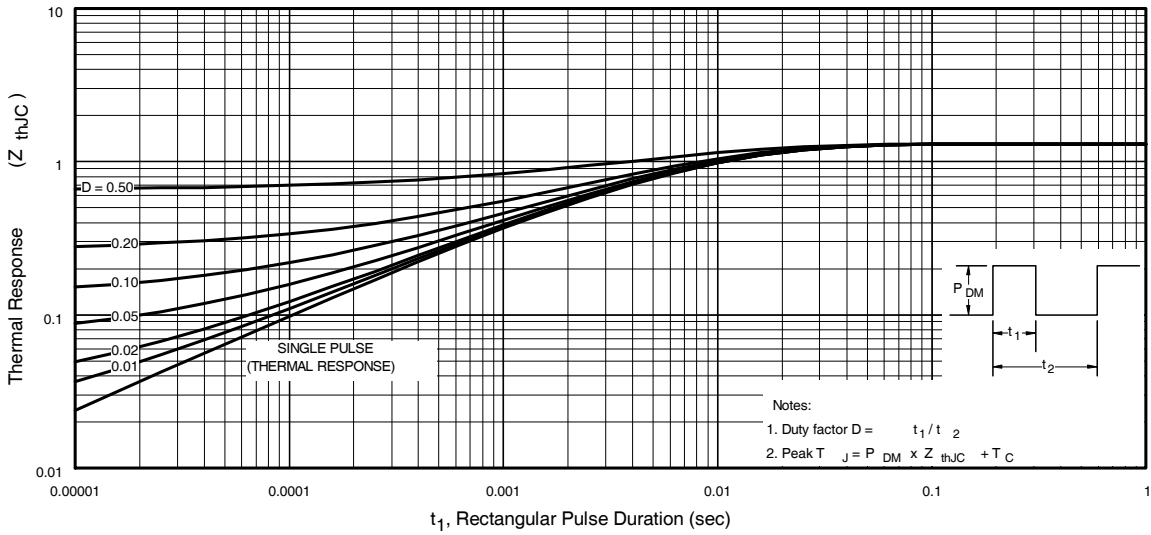

Fig 11. Maximum Effective Transient Thermal Impedance, Junction-to-Case
- ① Repetitive rating; pulse width limited by max. junction temperature. (See fig. 11).
- ② Limited by T_{Jmax} , starting $T_J = 25^\circ\text{C}$, $L = 0.45mH, R_G = 25\Omega, I_{AS} = 30A, V_{GS} = 10V$. Part not recommended for use above this value.
- ③ $I_{SD} \leq 30A, di/dt \leq 280A/\mu s, V_{DD} \leq V_{(BR)DSS}, T_J \leq 175^\circ\text{C}$.
- ④ Pulse width $\leq 1.0ms$; duty cycle $\leq 2\%$.
- ⑤ $C_{oss\ eff.}$ is a fixed capacitance that gives the same charging time as C_{oss} while V_{DS} is rising from 0 to 80% V_{DSS} .
$Z_{thJC}(D, t_{av})$ = Transient thermal resistance, see figure 11)